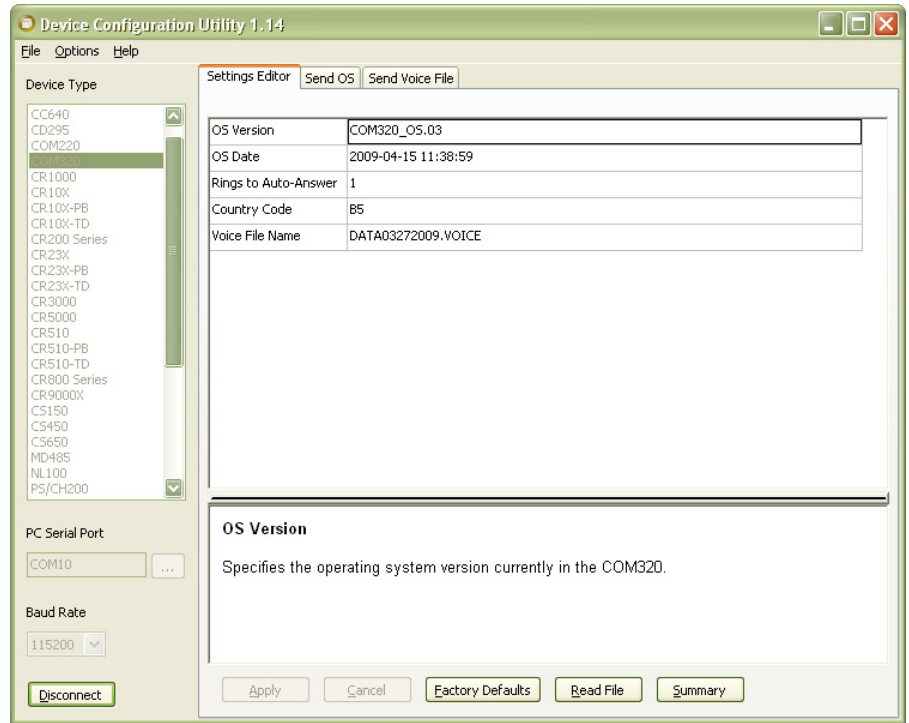

FIGURE B-3. Device Configuration Settings Editor
- 7) Click on the Connect button to connect to the COM320 and enter the settings editor (Figure B-3).